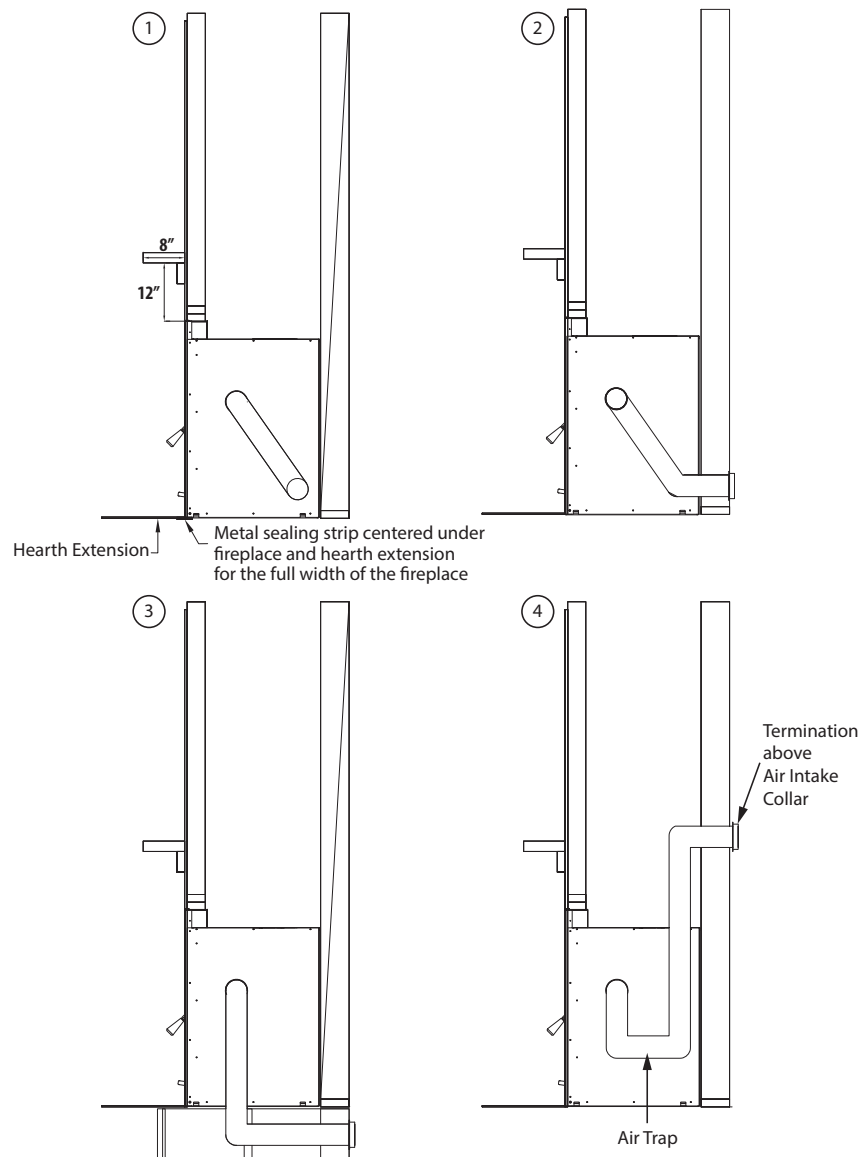

Figure 3.7, Combustion Air Duct Venting Configurations
NOTE: If the air intake duct pipe will terminate at the same height or above the air combustion collar on the fireplace, an air trap is recommended. See venting configurations in Figure 3.7, Combustion Air Duct Venting Configurations on page 16.
- An optional air trap can be used in venting configurations 1 through 3 in Figure 3.7 below.